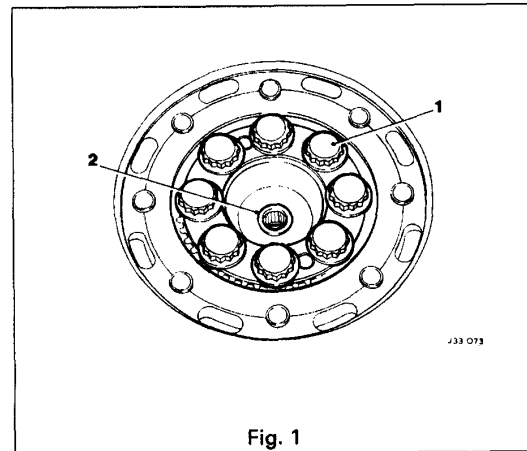

Fig. 1
- Remove the clutch master cylinder to clutch pedal clevis pin securing clip (1 Fig. 1), and remove the clevis pin (2 Fig. 1).
- Remove the master cylinder securing nuts (3 Fig. 1).
- Disconnect the hydraulic pipe (4 Fig. 1) from the master cylinder, and fit blanking plugs to the pipe and master cylinder.